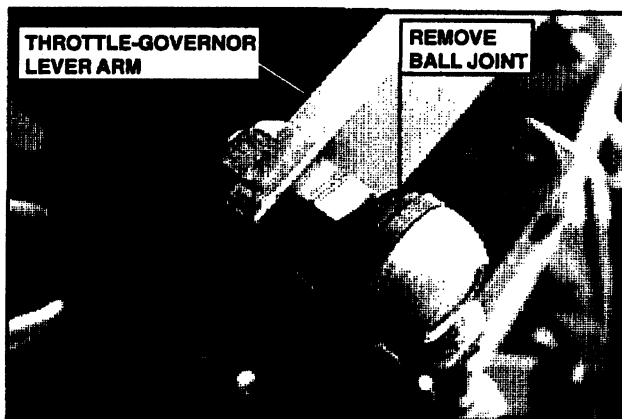

FIGURE 6.15A
10. Remove the Ball Joint end from the throttle governor lever arm. See Figure 6.15A.